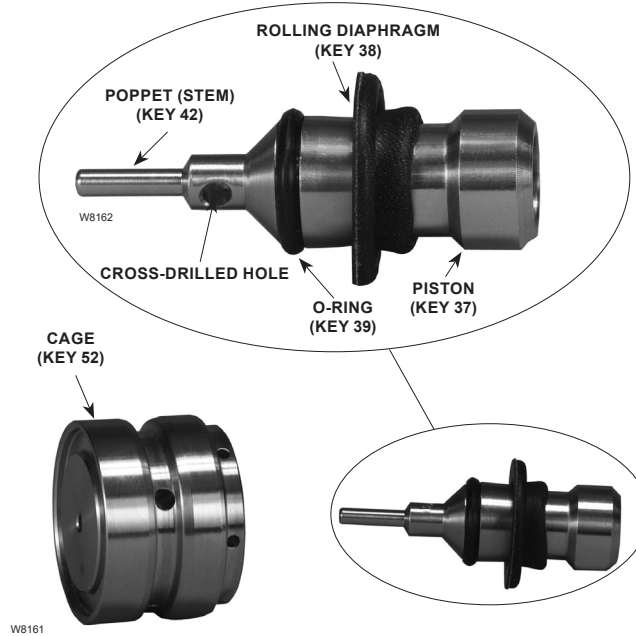

Figure 5. Cage Assembly
3. Install the O-ring (key 39) onto the poppet (key 42).
4. Lightly lubricate the piston (key 37).
5. Place the pilot sub-assembly into the cage (key 52). See Figure 5.